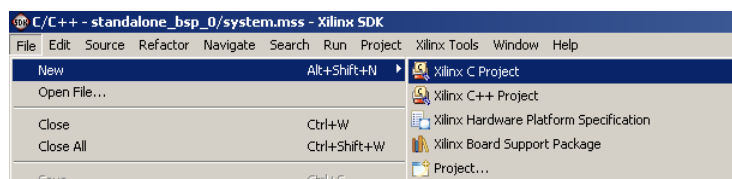

Figure 4-6 New C Project
- 5) Create new C Project by selecting File->New->Xilinx C Project, as shown in Figure 4-6.